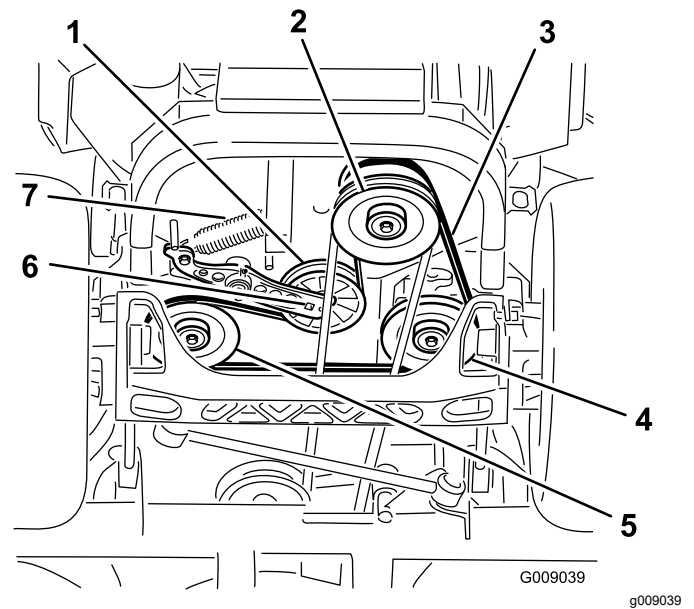

Figure 104
4. Raise the machine and support it with jack stands (Figure 104).
5. Use a ratchet in the square hole in the idler arm to remove the idler spring (Figure 104).
6. Unhook the idler spring from the frame (Figure 104).
9. Using a ratchet in the square hole in the idler arm, install the idler spring to the frame (Figure 104).